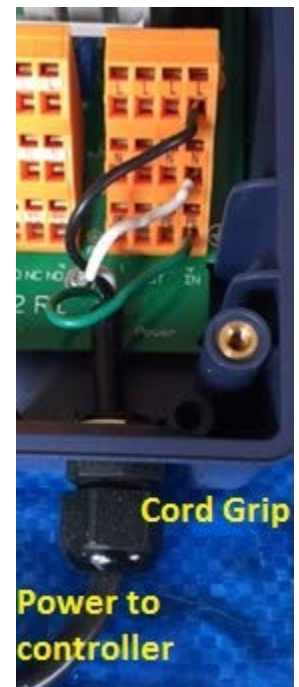

Figure 20 Factory installed power
The two large orange terminal blocks at the lower right, each have 3 levels; **Line**, **Neutral** and **Ground (PE)**. Input power is connected to the right most column of the Power block. See Figure 20.